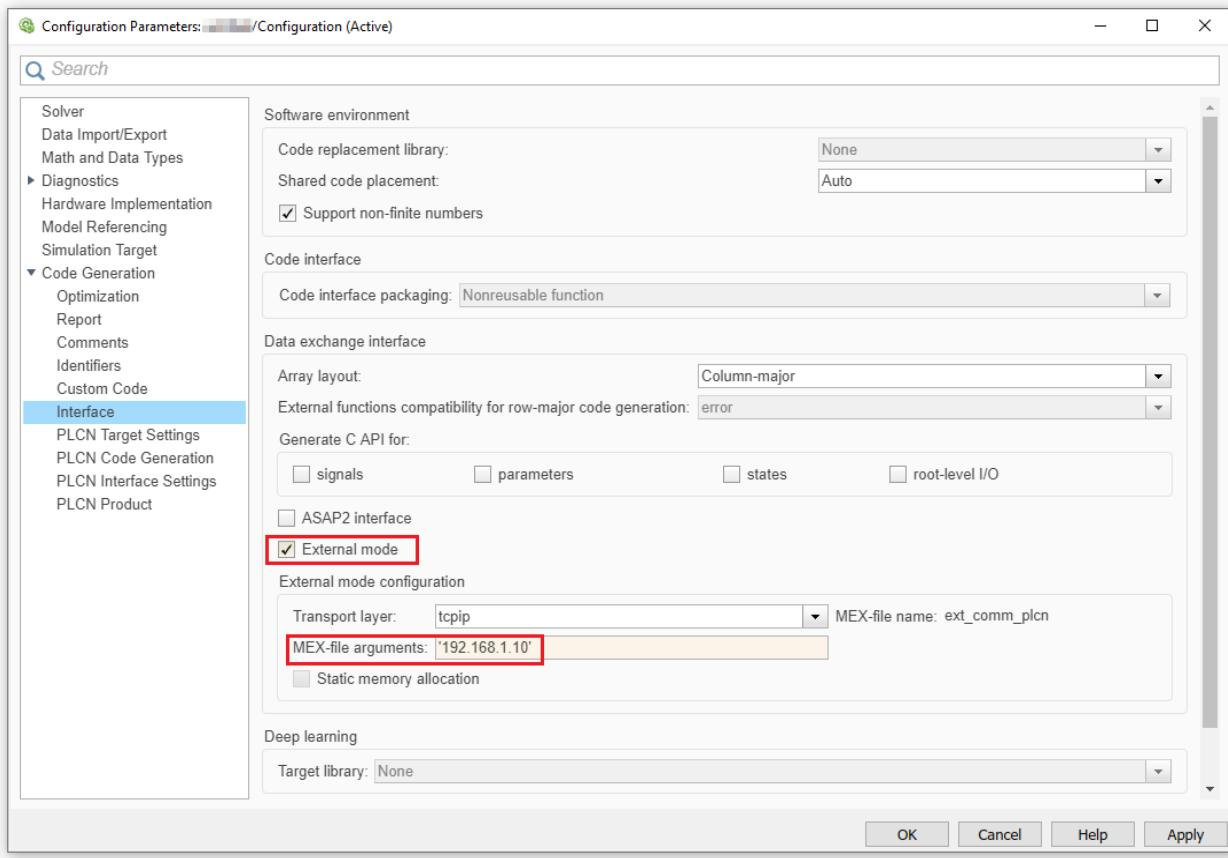

Figure 11-1 "Interface" configuration page
- Enable the “External mode” check box (see Figure 11-1).